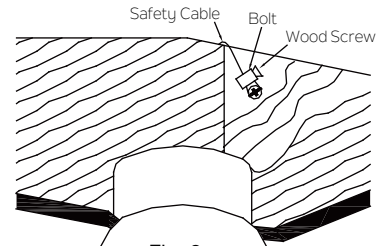

Fig. 8
Step 2. Insert the safety cable through the mounting plate and one of the holes in the outlet box into the ceiling. Adjust the length of the safety cable to reach the screw and washers by pulling the extra cable through the cable clamp until the overall length is correct, put the end of the cable back through the cable clamp, forming a loop at the end of the cable. Tighten the cable clamp securely. Now, put the loop in the end of the safety cable over the wood screw and under the washer. Tighten the wood screw securely. (Fig. 8)